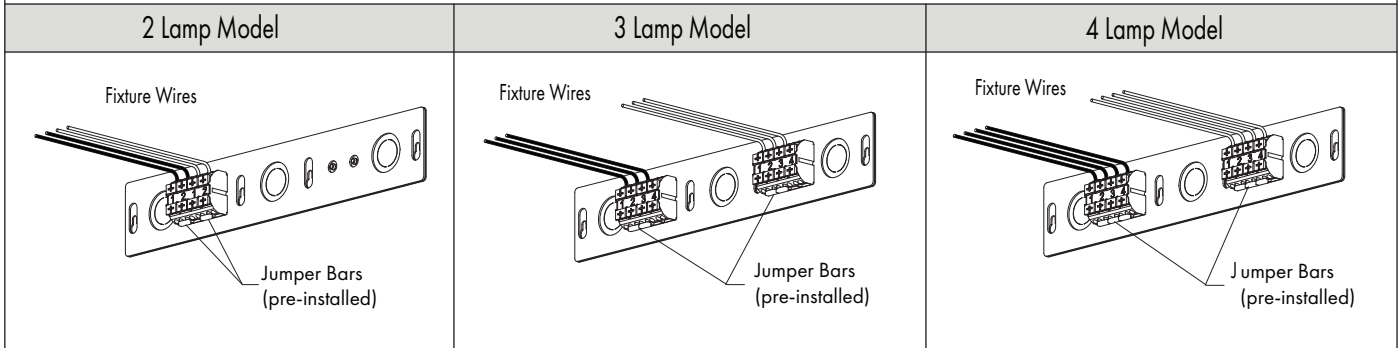

FIG 9.1 Jumper Bars
1. Ensure jumper bars are installed in terminal blocks as shown - FIG 9.1.